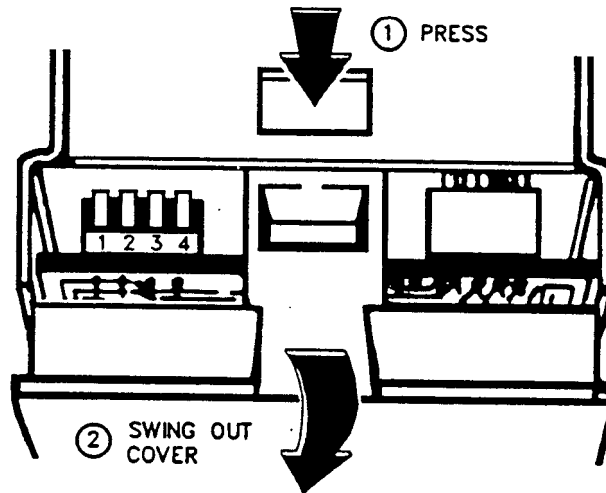

Figure 1. Removal of Front Plastic Cover, Showing Microprocessor Board
1. Remove the plastic cover from the front of the acceptor (Figure 1).